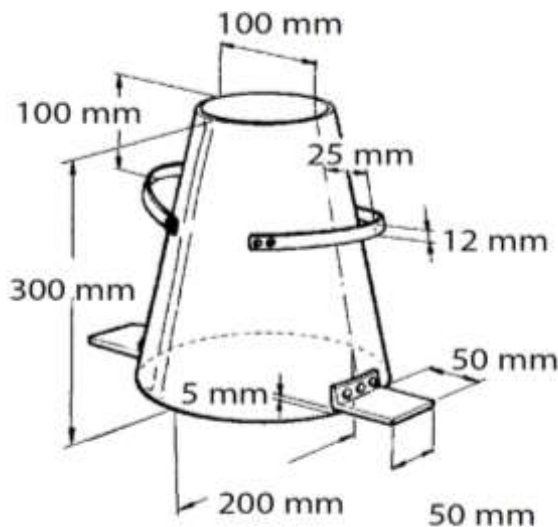

Figure 1
- A standard slump mould (see Figure 1). The footplates should be positioned 5 mm above the base of the cone.